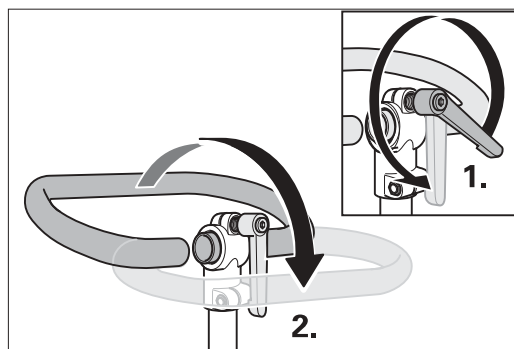

Fig. 13: Undoing the clamping lever on the extension and tilting the handlebar over into the desired position.
- 6 To adjust the handlebar, undo the clamping lever at the upper end of the extension (Fig. 13, 1.).
- 7 Tilt the handlebar over into the desired position (Fig. 13, 2.) and then tighten the clamping lever firmly again.